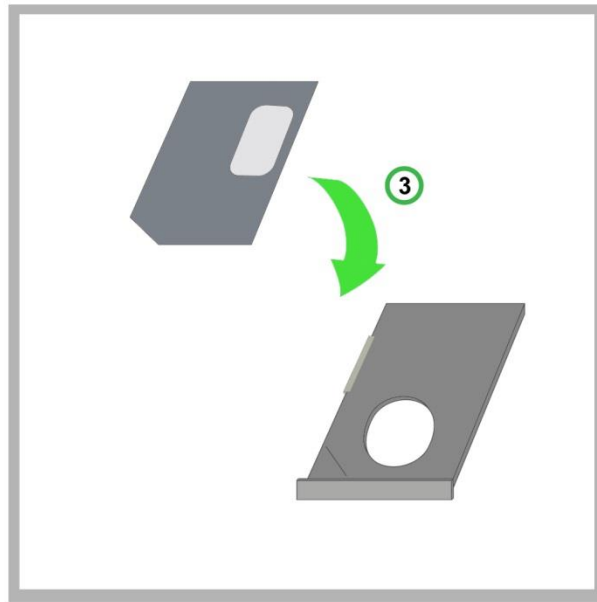

Fig. 3.2 Inserting the SIM card into the tray
3. Place the SIM card in the ejected tray (see Fig. 3.2).